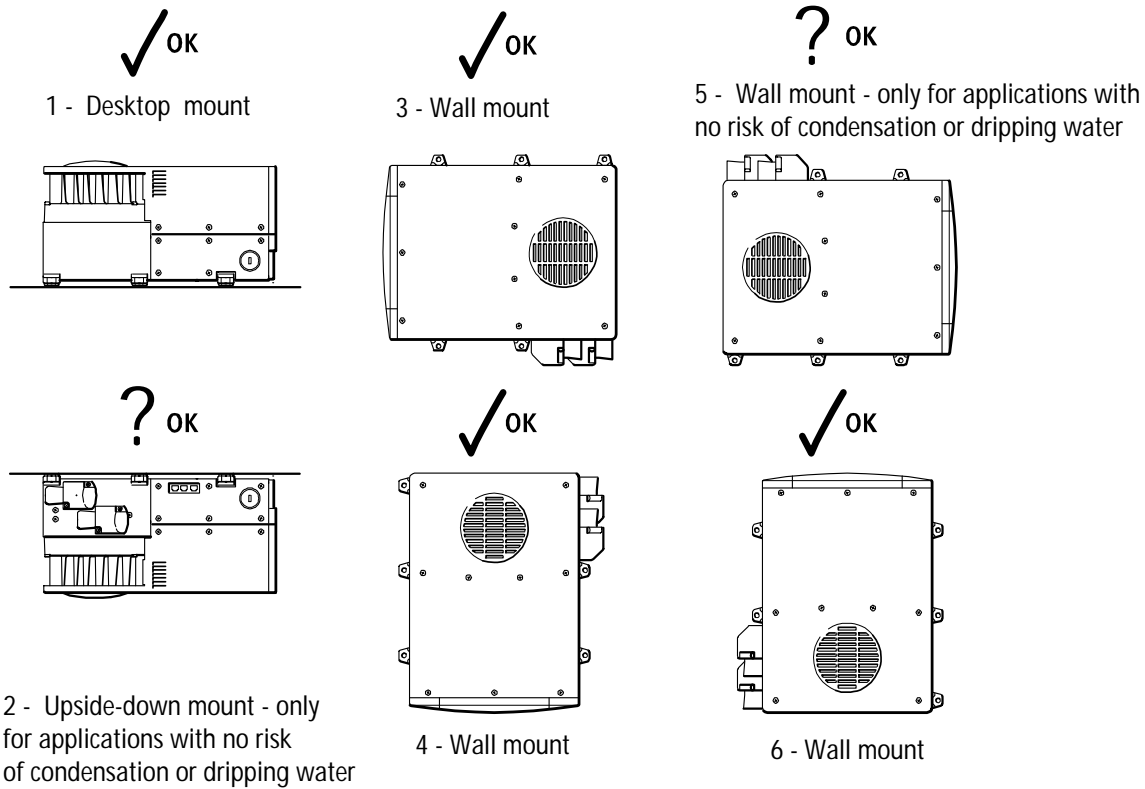

Figure 4 Approved Mounting Orientations
Orientation	To meet regulatory requirements, the RS2000 must be mounted in an approved mounting orientation. See Figure 4 on page 20.
2. Mounting considerations are shown in Figure 4 on page 20 and described in Table 3 on page 20.
4. Select an appropriate mounting location and orientation. To meet regulatory requirements, the RS2000 must be mounted in one of the six orientations shown in Figure 4.